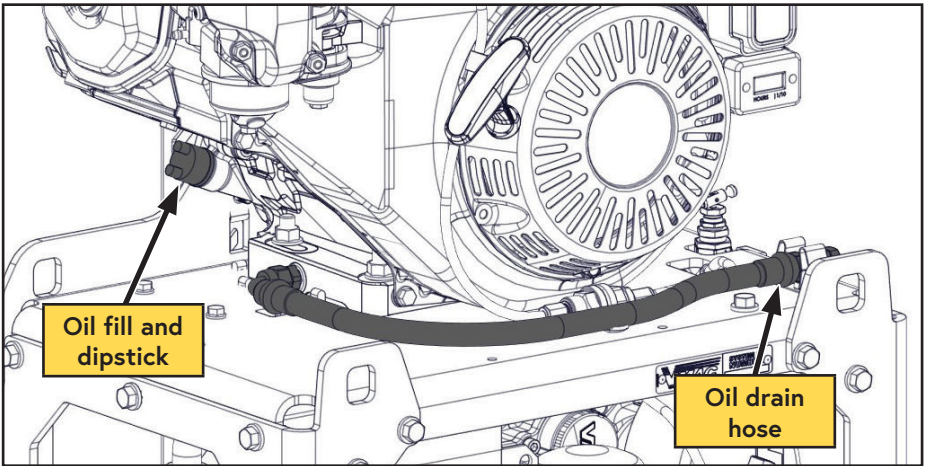

Figure 38 — Engine oil drain
- Locate the engine oil drain and clean the area around the drain plug and dipstick to prevent contamination (Figure 38).